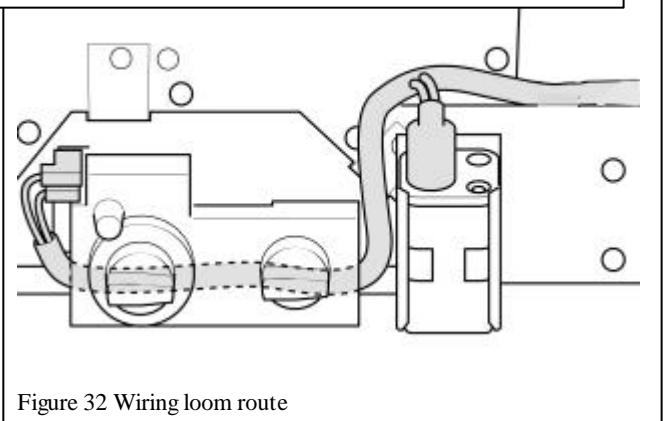

Figure 32 Wiring loom route
- Colourway & Homestyle only: When replacing, make sure that the wiring loom runs above and to the left of the battery box and behind the control valve. See figure 32. The motor lead connectors are two different sizes. They will only fit to the correct motor terminals.
Colourway & Homestyle only: When replacing, make sure that the wiring loom runs above and to the left of the battery box and behind the control valve. See figure 32. The motor lead connectors are two different sizes. They will only fit to the correct motor terminals.
Colourway & Homestyle only: When replacing, make sure that the wiring loom above and to the left of the battery box and behind the control valve. See figure 32. The motor lead connectors are two different sizes. They will only fit to the correct motor terminals.
- When replacing, make sure that the wiring loom runs above and down to the left of the battery box and behind the control valve. See figure 32.